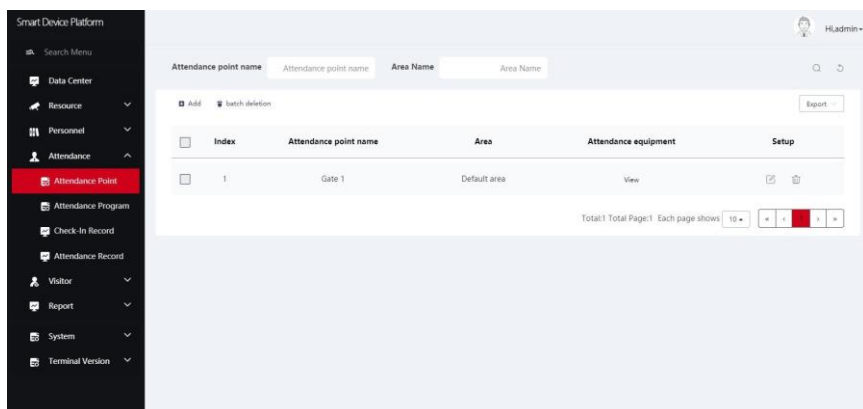

Figure 5-89
Step 1: Click "Attendance Management → Attendance Point" on the smart terminal platform interface to enter the attendance point interface, as shown in Figure 5-89.